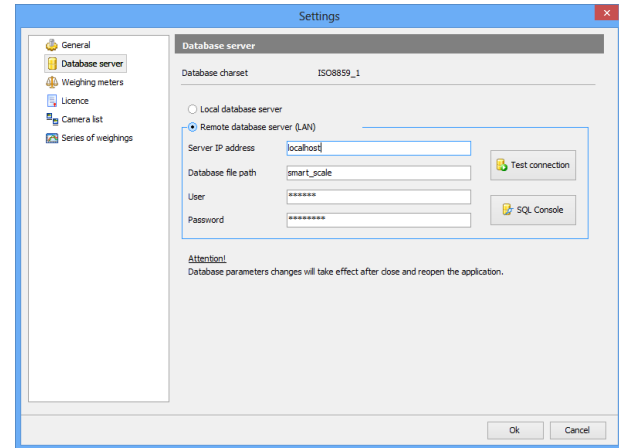

Fig. 22 An example of connection configuration for a remote database server
1. Enter the configuration of X-Scale (menu Management/Settings – Fig. 22